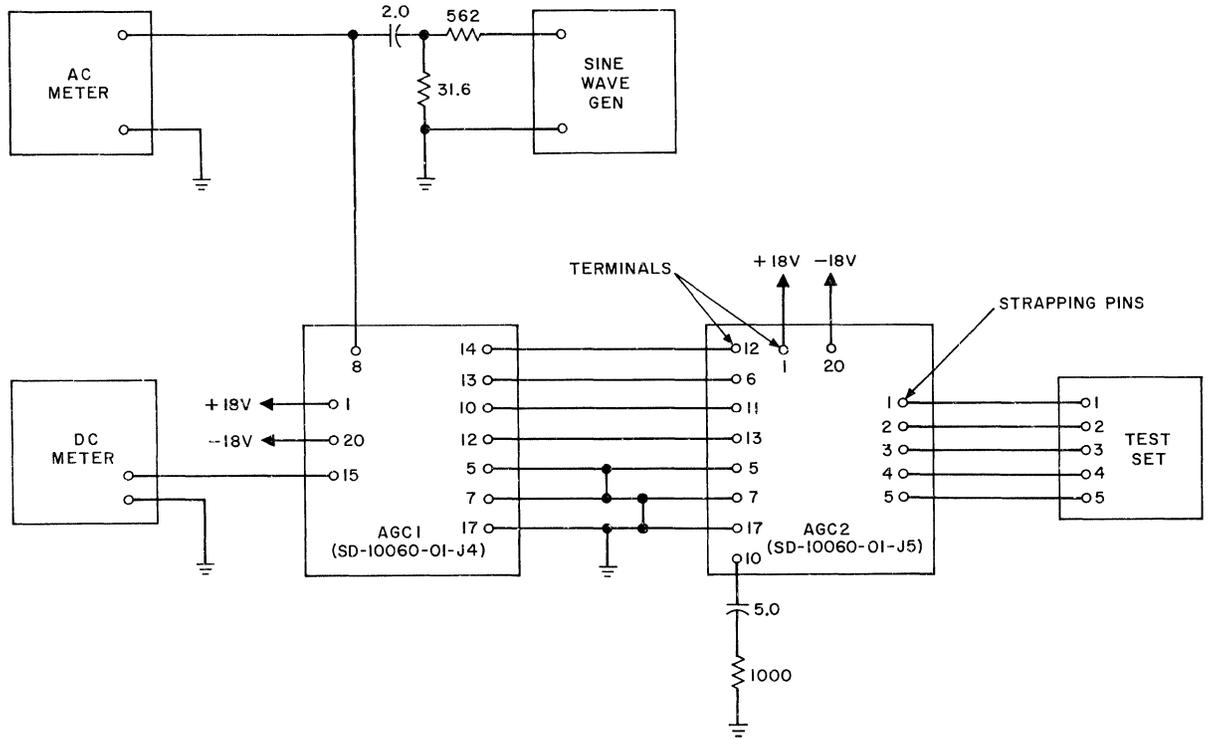

Fig. 21 — Automatic Gain Control 2 Test
(1) The gain adjustment of the AGC2 card is made in conjunction with the AGC1 card. Connect the cards as in the suggested test circuit shown in Fig. 21. Connect power to both cards as specified in 10.25 (a).
(3) Connect the sine-wave generator in series with a 2-uf capacitor to terminal 8 of the AGC1 card as shown in Fig. 21. Set the frequency of the generator to 1800 cps ( $\pm 5$  percent) and adjust the amplitude to obtain a 13.1 ( $\pm 0.05$ ) mv rms signal between terminal 8 and ground of the AGC1 card. The voltage between terminal 15 and ground shall be  $+6.5$  ( $\pm 0.8$ ) volts dc.
(4) Rotate switches A and B on the test set, beginning with both switches at position 1, according to the sequence given in Table C, until the voltage between terminal 15 and ground on the AGC1 card switches to less than  $+0.3$  volt dc. Note the position of the test set switches.
(5) Using the test set switch positions obtained in (4) consult Table C to determine which pins should be strapped.
(6) Remove the card from the test circuit and strap the appropriate pins according to the instructions given in A-A of AGC2 card assembly drawing A-835179.